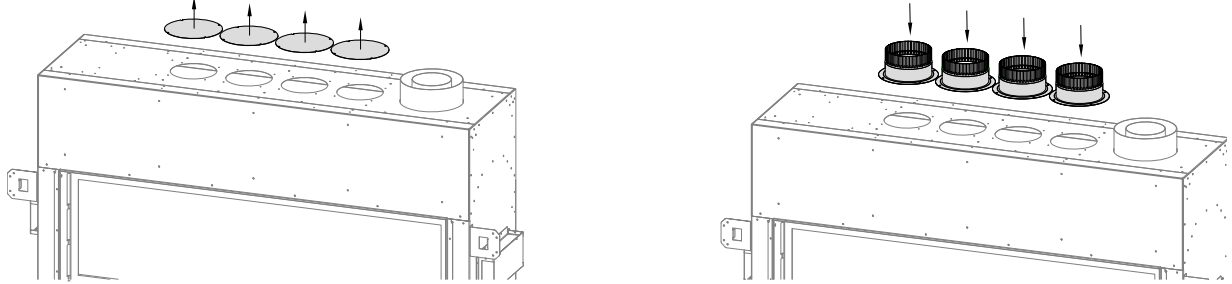

Figure 4.7 - Cover Plate Removal and Collar Installation
1. Remove the (16) sheet metal screws that secure the (4) cover plates at the top of the fireplace shown in Figure 4.7. Discard these four cover plates. Save the sheet metal screws for the next step.
2. Install the KZK collars that were provided with KZK-054 as shown in Figure 4.7. Reuse the sheet metal screws from the previous step.